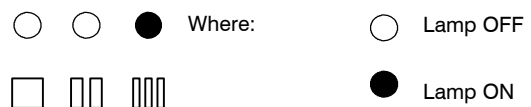

Fig. 9.16
- 9 Press the reset button C once until the lamps E give the indication as in Fig. 9.16 (boiler mode).